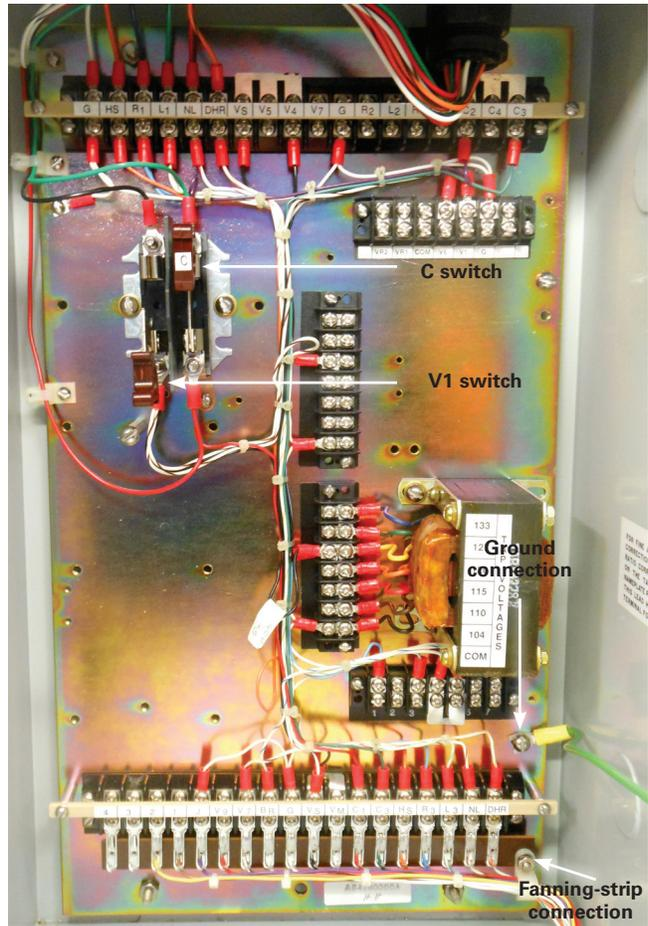
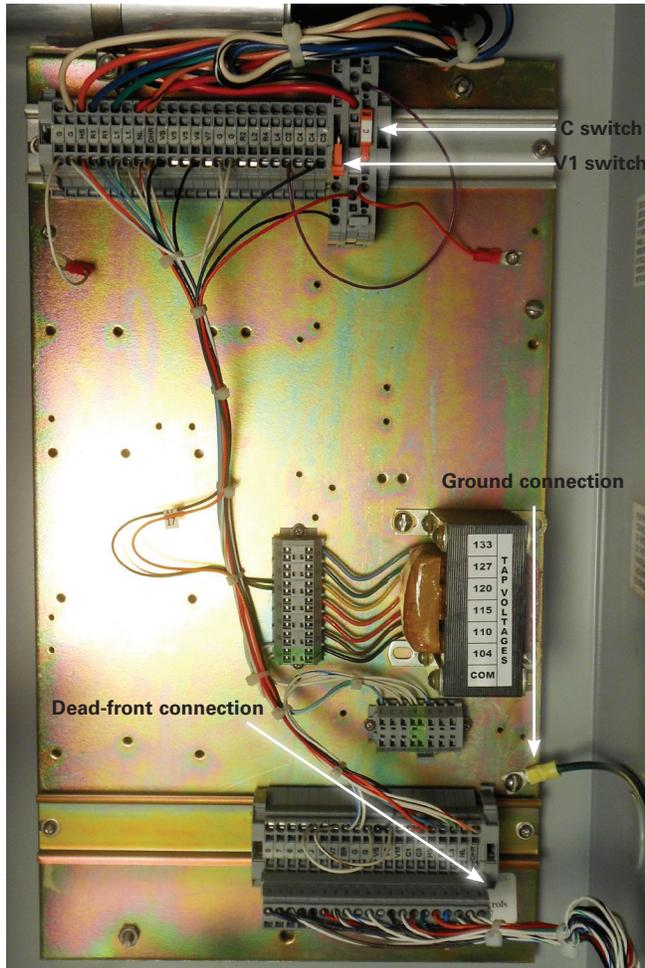

Figure 2. Fanning-strip style back panel.
Figure 3. Dead-front style back panel.
- E. Open the switch marked **V1**. Also open any other switches marked with a **V** such as **V6** or **V2** (Figure 2 or 3).
- F. Disconnect the control wire harness connection. This will consist of loosening the fanning-strip screws (10 or 18 screws) (Figure 2) or unplugging the 18-position dead-front plug (Figure 3).
- G. Disconnect the green ground wire (Figure 2 or 3).
- D. Close the switch marked **C** (Figure 2 or 3).